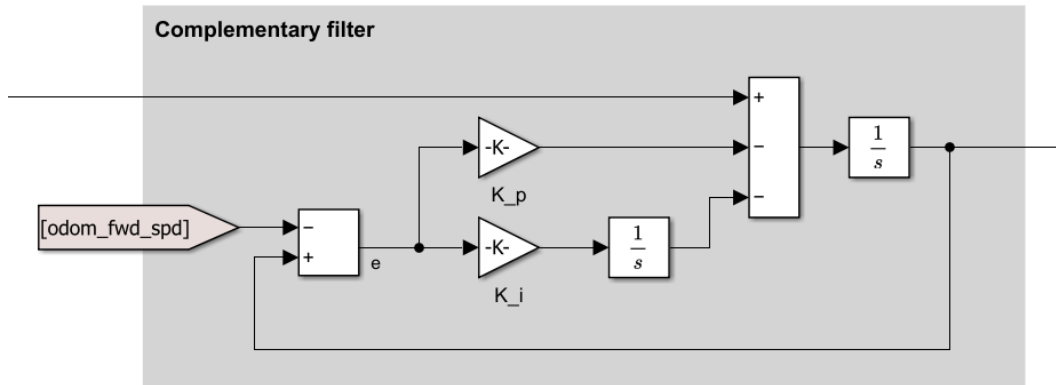

Figure 5: Integral controller implementation
10. Complete the implementation of the complementary filter by adding an integrator to the feedback controller as shown in Figure 5 below: Connect the output of the calculate error block to the gain K_i . Place an integrator block between the output of the K_i gain and the $-$ input of the sum block.